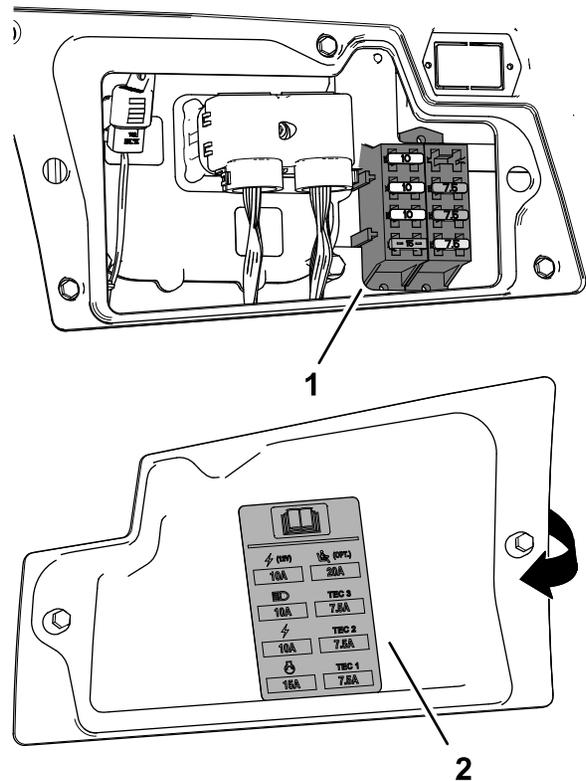

Figure 100
3. Replace the open fuse (Figure 100) with the same fuse type and amperage rating.